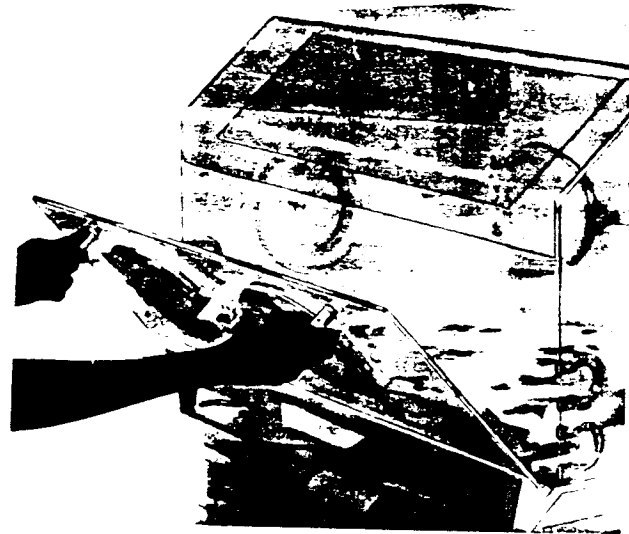

FIGURE 2.7 ACCESS PANEL OPERATION
- H. **CHECK ACCESS PANEL DETENT.** Rotate both latch/releases inwardly and open the Access Panel as shown in Figure 2.7; the Air Curtain Cover should rise slightly as the Access Panel opens, and the detents should create a noticeable "drag" during initial movement of the panel. Pivot the Access panel to the full open position (hanging straight down).